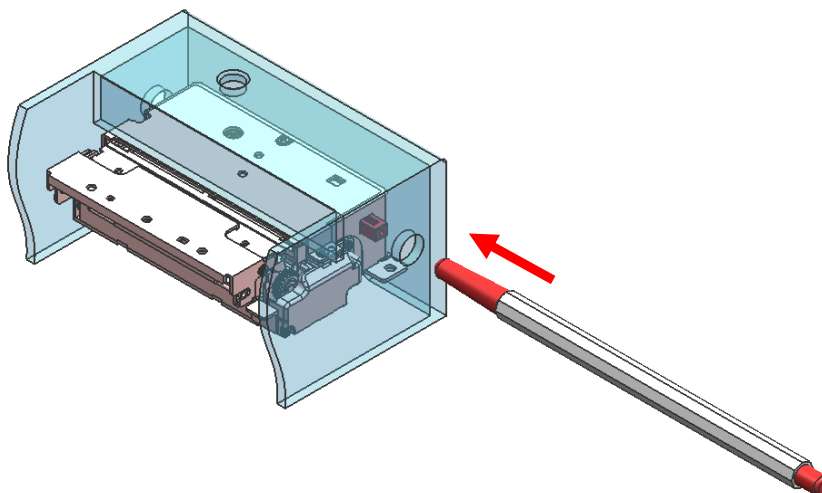

Fig 12-1 Example illustration of designing the method to clean cutter jam using tools
- Method to clear the cutter jam by push button (Refer to Fig 12-1, 12-6)